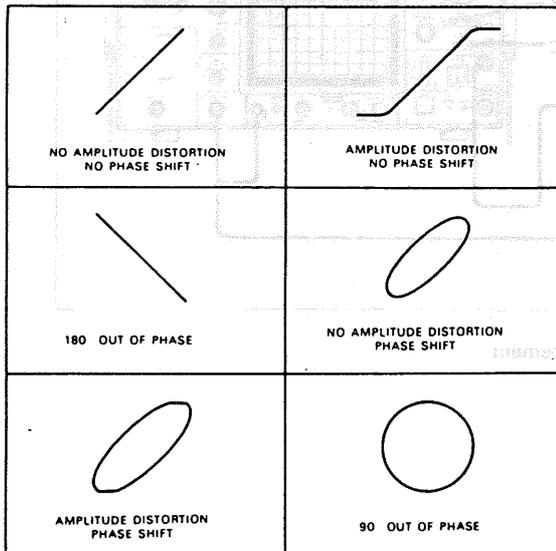
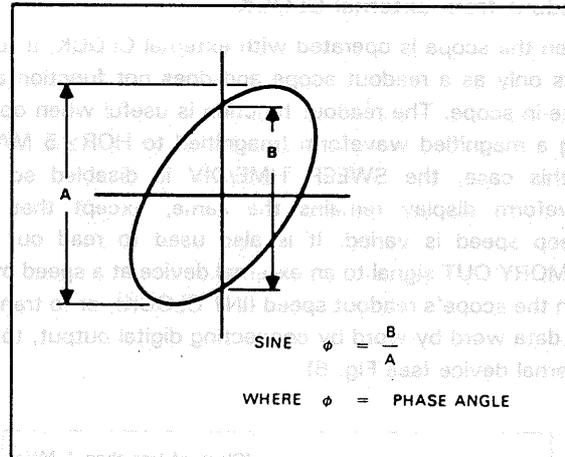

Fig. 8. Typical phase measurement oscilloscope displays
Fig. 9. Phase shift calculation
7. Some typical results are shown in Fig. 8. If the two signals are in phase, the oscilloscope trace is a straight line. If the vertical and horizontal gain are properly adjusted, this line is at 45° angle. A 90° phase shift produces a circular oscilloscope pattern. Phase shift of less (or more) than 90° produces an elliptical Lissajous' pattern. The amount of phase shift can be calculated by the method shown in Fig. 9.